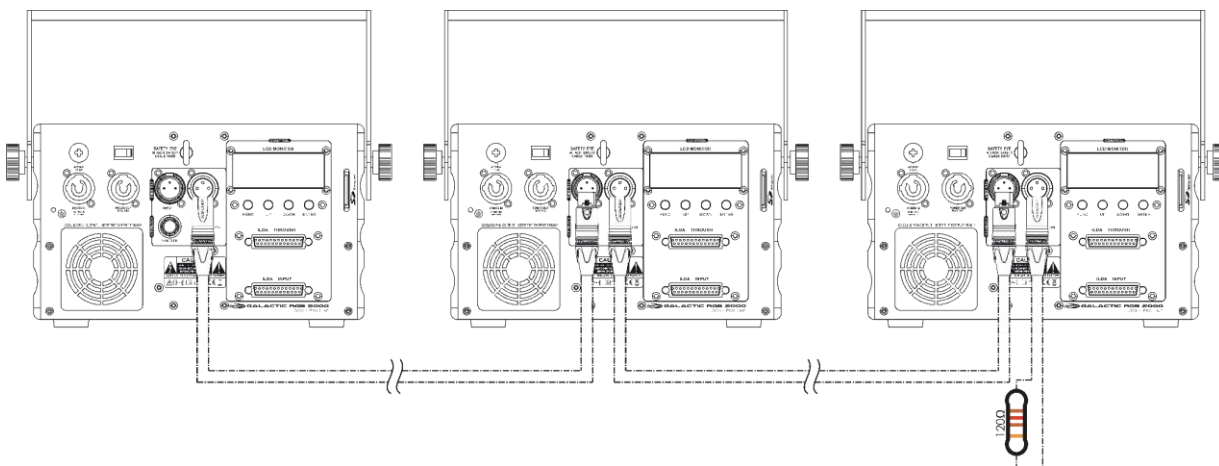

Fig. 12
- 02) Repeat step 1 to connect all devices as shown in Fig. 12.
- 03) Insert the included SD card into the **SD slot (13)** on each connected device.